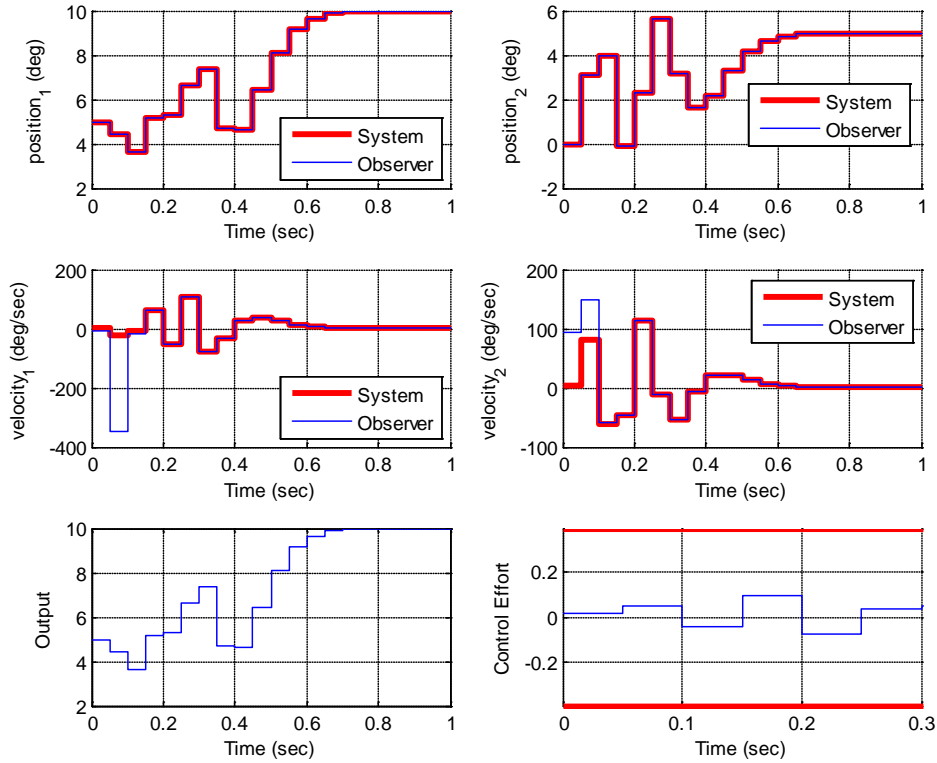

Figure 12. Results for problem 4d.
d) Same conditions as **b**, but now the positions of both disk 1 and disk 2 are known (the output is the position of the first disk). Place the state feedback poles all at 0.2 and the observer poles at [0.01 0.015 0.02]. For a 10 degree step input you should get the graph shown in Figure 12. Turn in your plot.